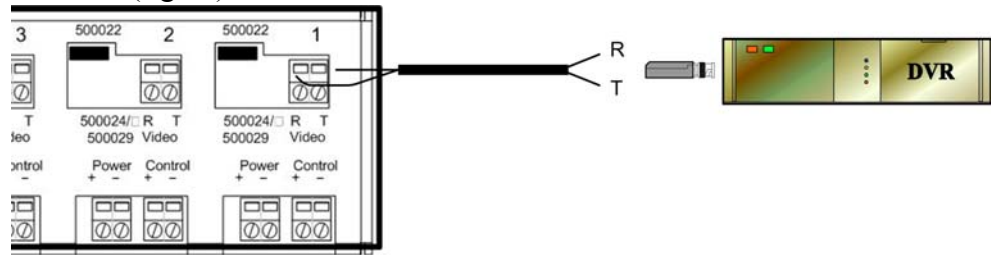

Figure 15: Video connection, Model 500131
8. Connect one (1) twisted pair for video between the hub and the balun on the DVR (fig 15).